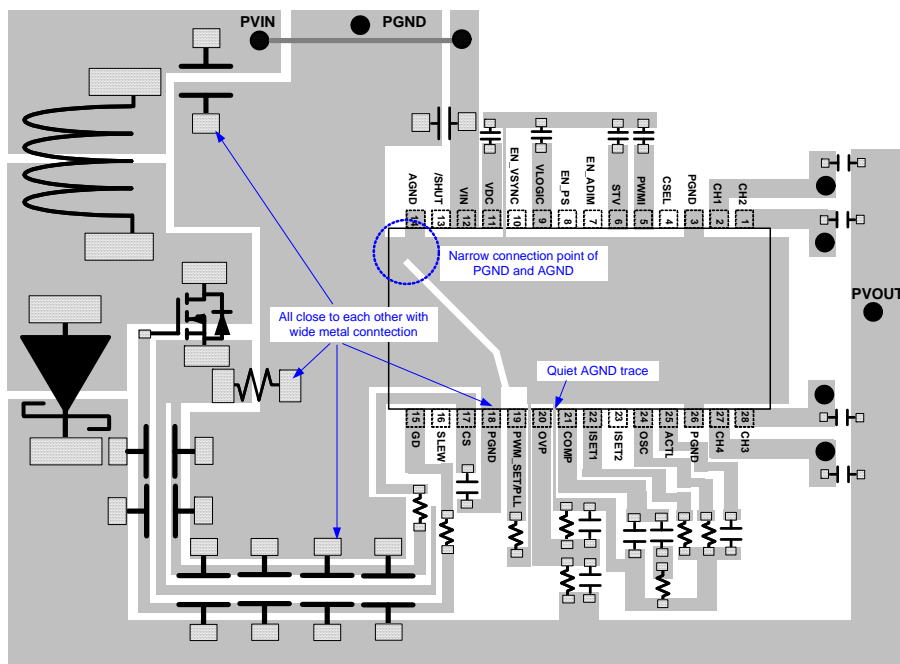

FIGURE 11. EXAMPLE OF ONE LAYER PCB LAYOUT
The general rules for a two layer PCB layout can be applied to the one layer PCB layout of the SOIC package, although this layout is much more challenging and very easy to get wrong. The noisy PGND of the switching FET area and quiet AGND must be placed on the same plane as shown in Figure 11, therefore, great care must be taken to maintain a stable and clean operation, due to increased risk of noise injection to the quiet area.
2. All ground pads for input caps, current sensor and output caps should be close to the PGND pin adjacent to the CS pin of ISL97687 with wide metal connection shown in Figure 11. This guarantees a low differential voltage between these critical points.